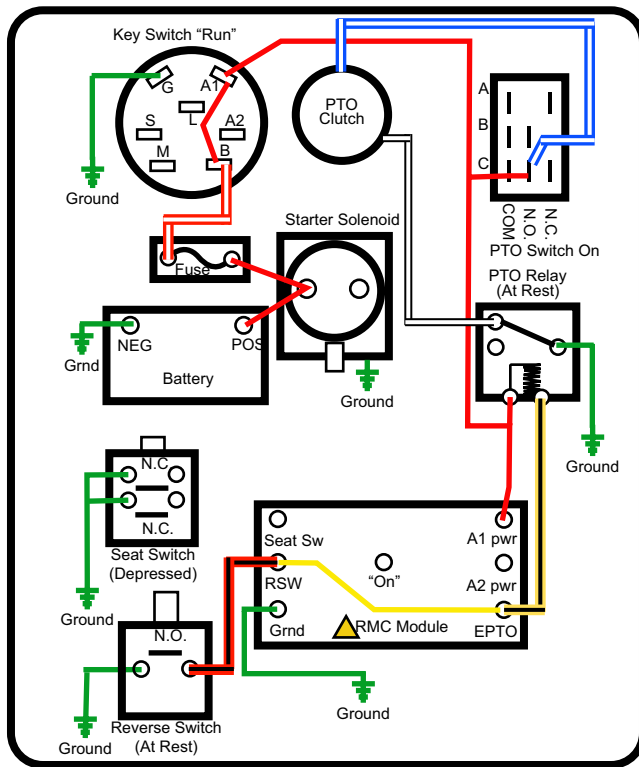

Figure 7.29
Basic Operation: See Figure 7.29.
1. The PTO clutch loses its ground when the PTO relay is energized. See Figure 7.29.